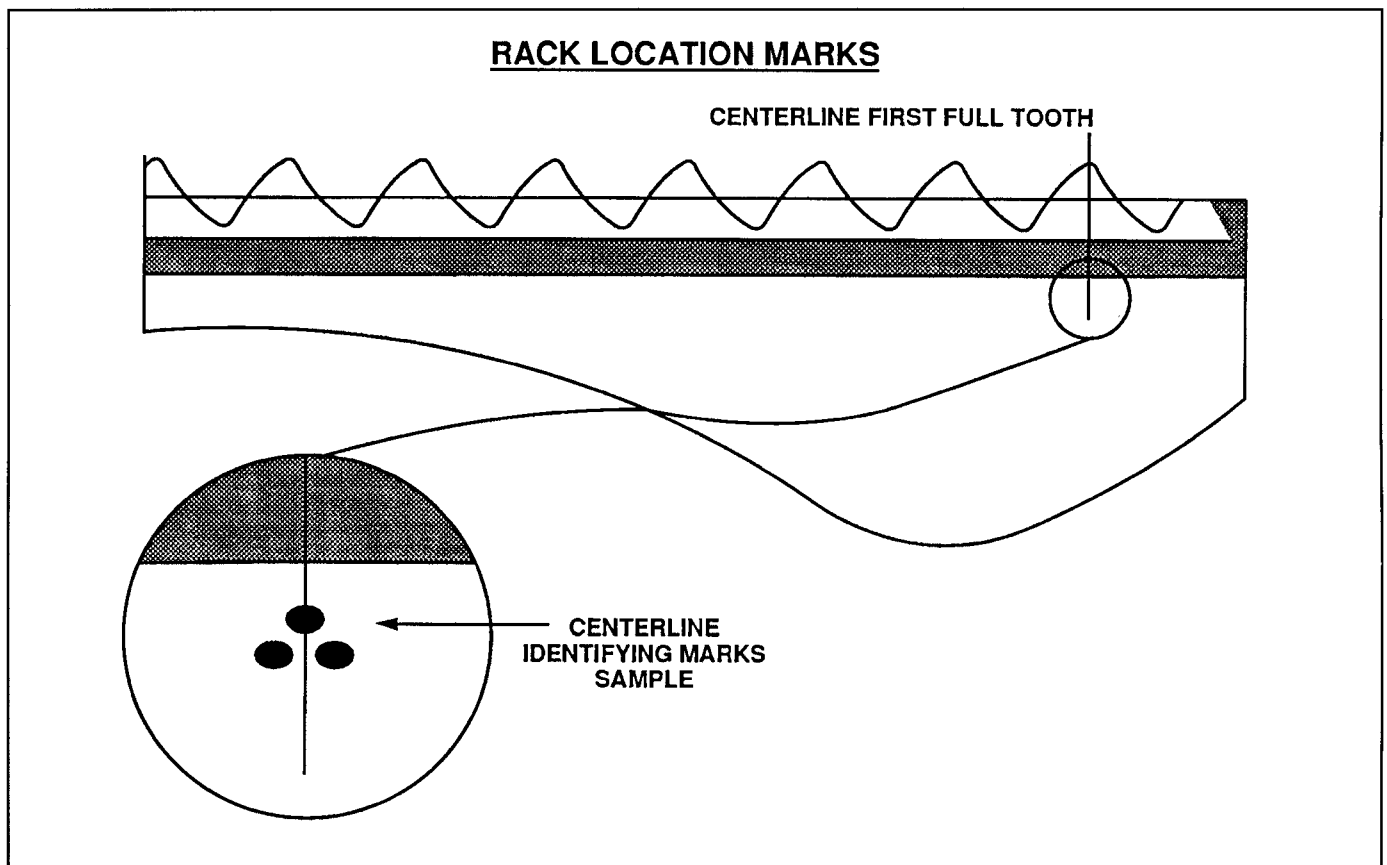

Figure 6-30. Rack Location Marks
3. Mark both sides of the handle at the first full tooth. The marks should be semi-permanent to prevent accidental erasure. See Figure 6-30.